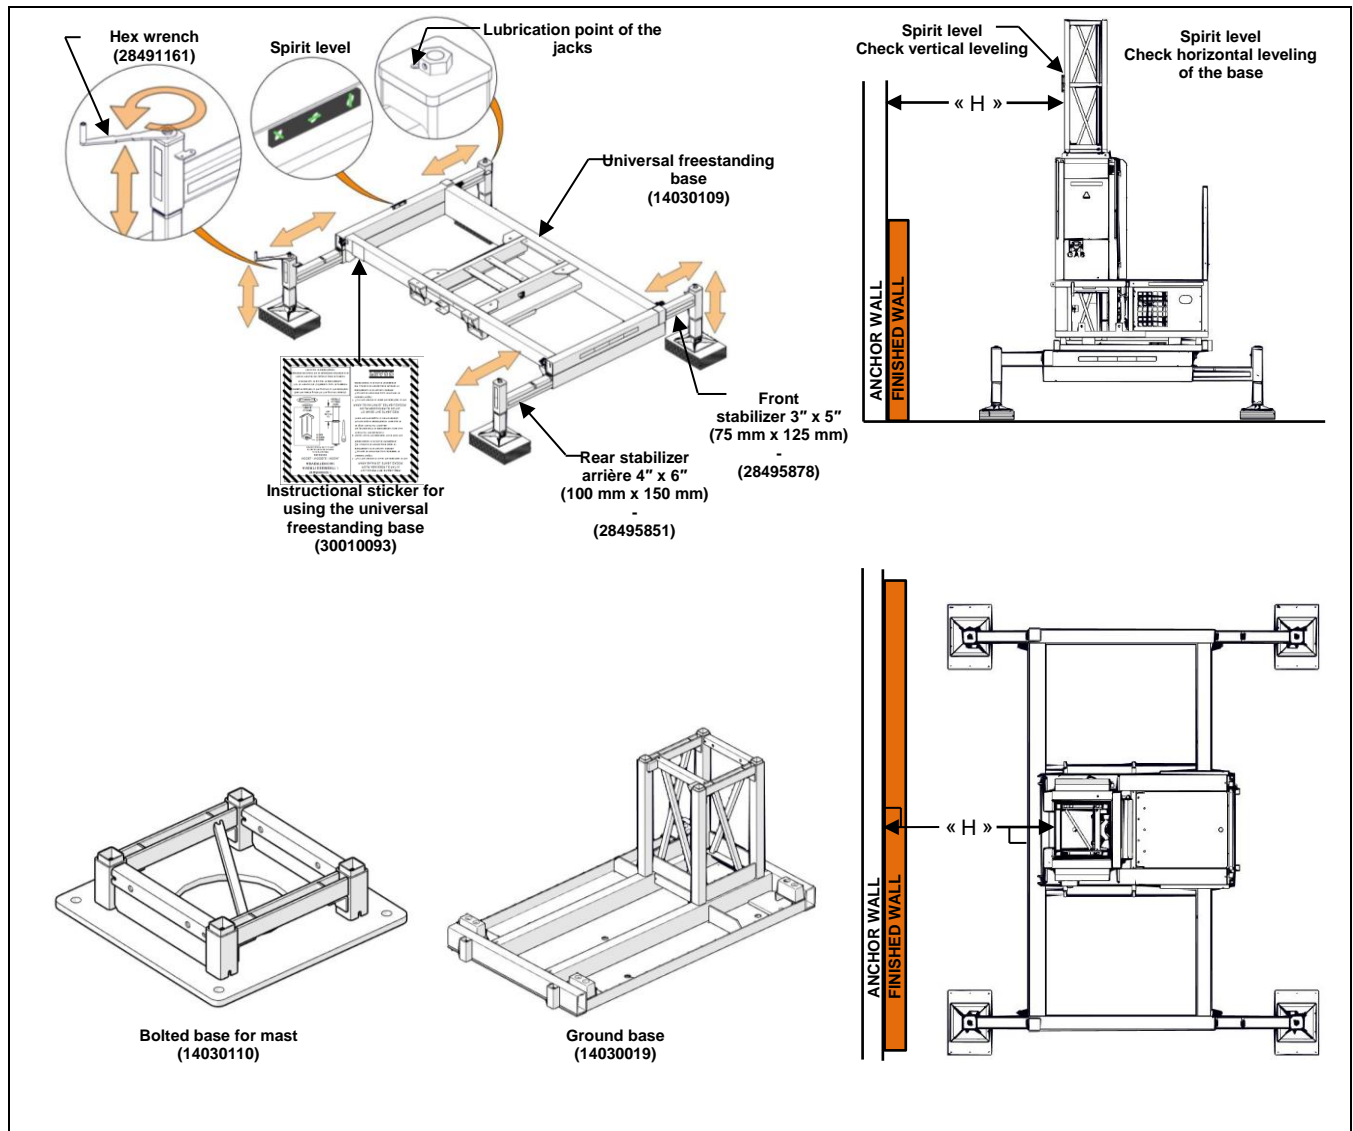

Figure 50 - Installation of universal freestanding base
Step 4 – Install the bolted base (14030110) or the ground base (14030019) directly onto the universal freestanding base (14030109) as shown in Figure 50. Then, bolt the first mast section of the lifting unit (13030018) to the bolted base (14030110) or the ground base (14030019).